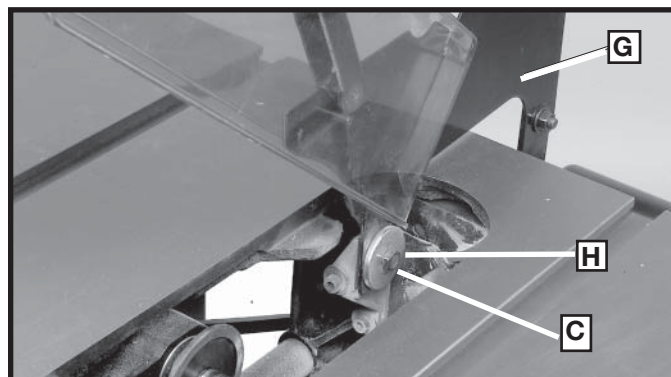

Fig. 47
- Assemble the blade guard and splitter assembly (G) Fig. 47, between the large washer (C) and the splitter bracket and tighten screw (H) with wrench supplied. Slide splitter as far down as it will go.